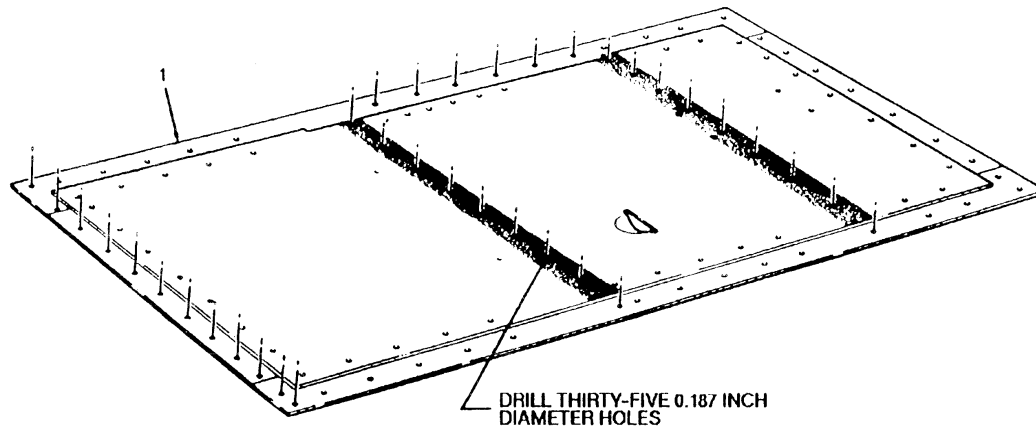
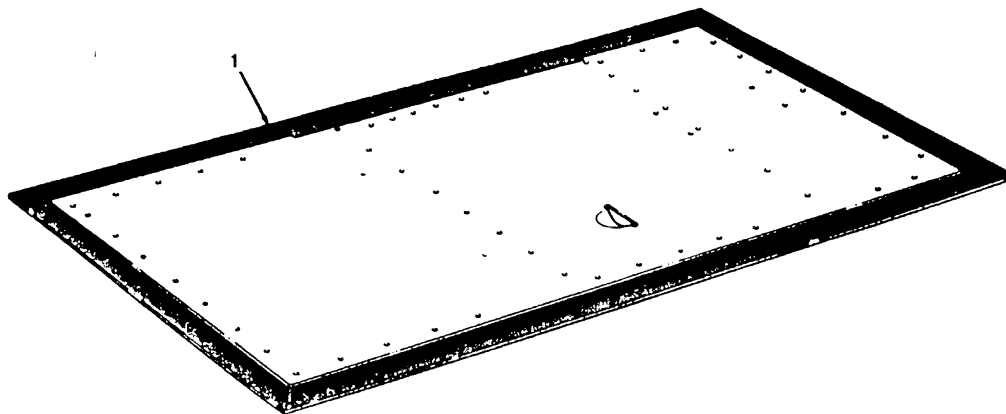

FIGURE 3-55
FIGURE 3-56
8. Drill thirty-five 0.187-inch diameter holes marked in steps 3 and 4 in insert panel (1). (see figure 3-55)
1. Place insert panel (1) on a suitable work surface with the arrow facing down and left. (see figure 3-55)
2. Apply approximately 0.125-inch thickness of NSN 8040-01-154-0031 Depends No-Mix (Part 2 Adhesive) to area surface shaded on insert panel (1).
3. Apply approximately 0.125-inch thickness of P/N 89616 Silaprene adhesive sealant to area surface shaded on insert panel (1). (see figure 3-56)